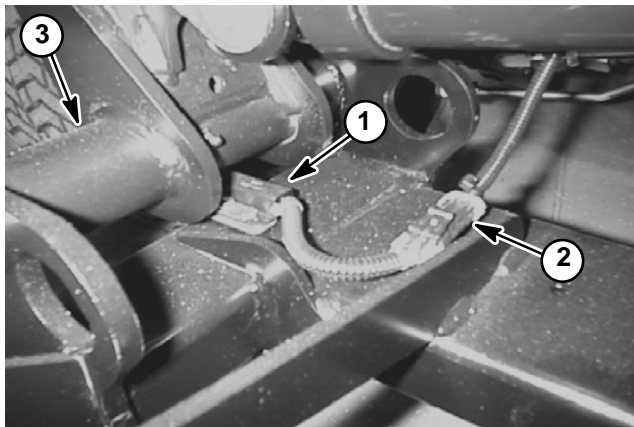

Figure 30
The cutting deck position switch is a normally open proximity switch that is located on the traction unit frame (Fig. 30). The sensing plate is located on the cutting deck lift arm. The Groundsmaster 4500-D uses two (2) cutting deck position switches: for decks 4 and 5. There are four (4) deck position switches on the Groundsmaster 4700-D: for decks 4, 5, 6 and 7.